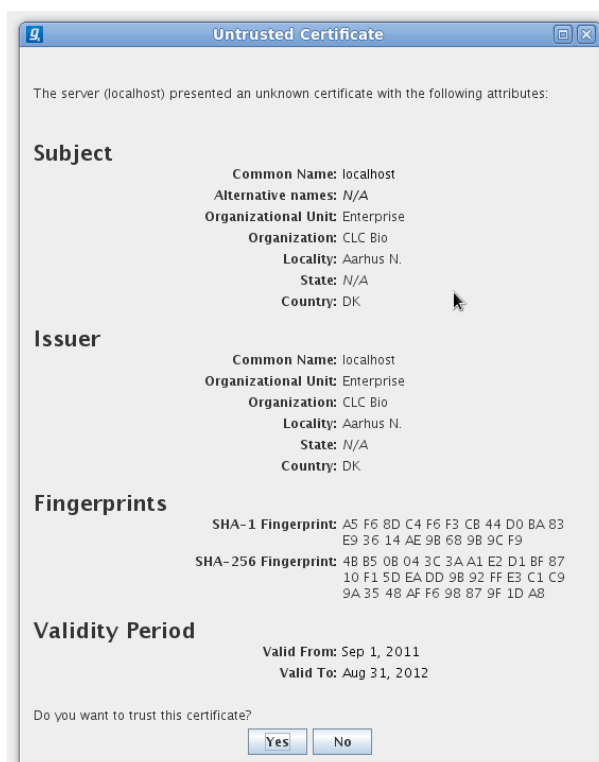

Figure 16.1: A warning is shown when the certificate is not signed by a recognized CA.
If SSL is detected, the server's certificate will be verified and a warning is displayed if the certificate is not signed by a recognized Certificate Authority (CA) as shown in figure 16.1.